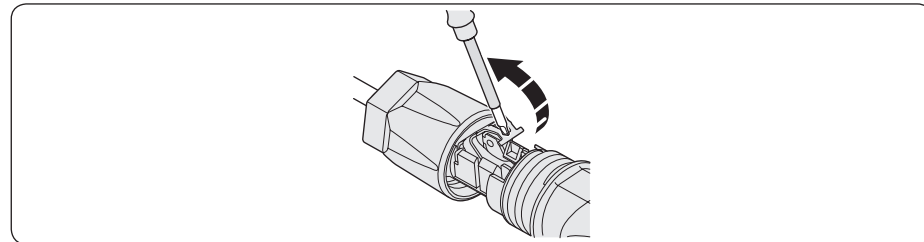

Figure 4-18
- 3) Use a flathead screwdriver to open the clamping bracket in the connector, as shown in Figure 4-18: